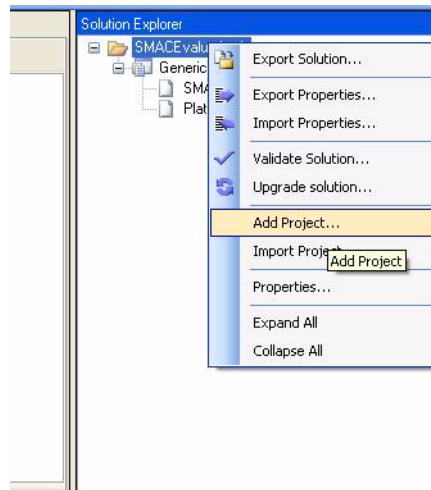

Figure 5. Adding a New Project to a Existing Solution
4. Add other required projects for the evaluation as shown in Figure 5.